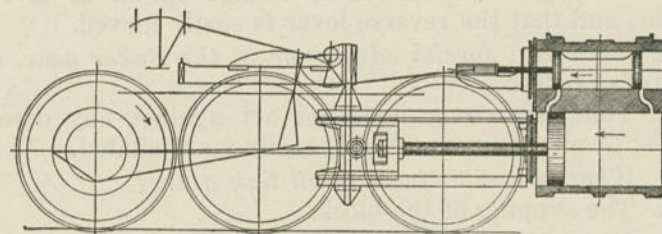

Fig. 303. Southern Valve Gear.
A. As seen in Fig. 303, an extension arm is secured to an extension of the main crank pin, so that on inside-admission engines the eccentric crank pin is  $90^\circ$  behind the former in forward motion. For outside admission the eccentric pin is  $90^\circ$  ahead in forward motion. The eccentric rod is supported near its forward end by a radius hanger, the upper end of which is supported by a link block sliding in a link resting on a link support on the frames. The forward eccentric-rod end is connected with a transmission yoke, the upper end of which is connected to the horizontal arms of a bell crank that transmits the motion to the valve stem, attached to the lower bell-crank end.
*Q. What are the valve units shown in Fig. 303?*